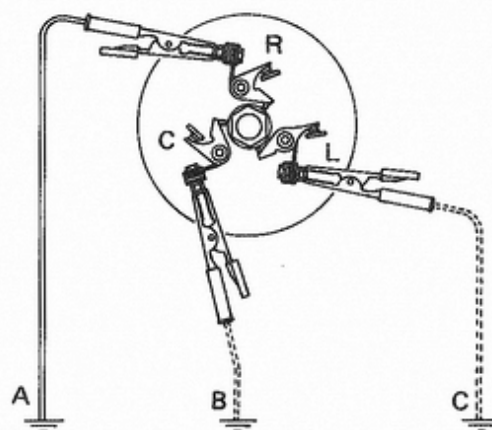

Fig. 7-6-4
① Perform the ground connection "A", "B" and "C" individually as shown in Fig. 7-6-4 and read the drop in engine rpm from that in the state without grounding.